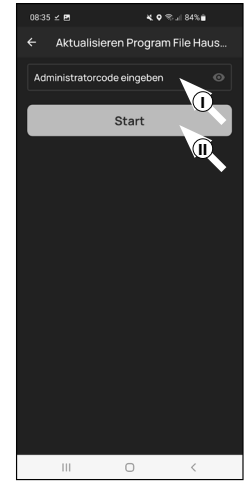

Fig. 11
- ⑪ Here you will be asked to verify yourself with your administrator code. Enter the code and confirm with "Start" (Fig. 11).